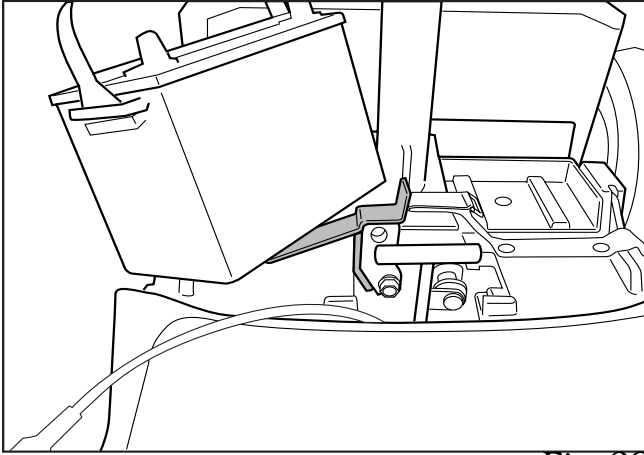

Fig. 28
3. You will notice that you cannot place the batteries into the unit, unless the latch is fully engaged. (Fig. 28)